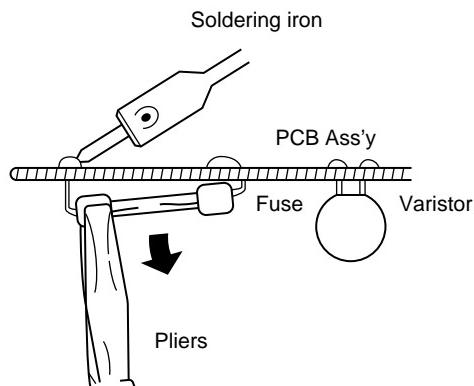

Fig. IV-21
2. Remove the fuse from PCB Ass'y using pliers while heating the soldered leads on the back side of the PCB Ass'y with a soldering iron (30W or 60W). (Fig. IV-21)